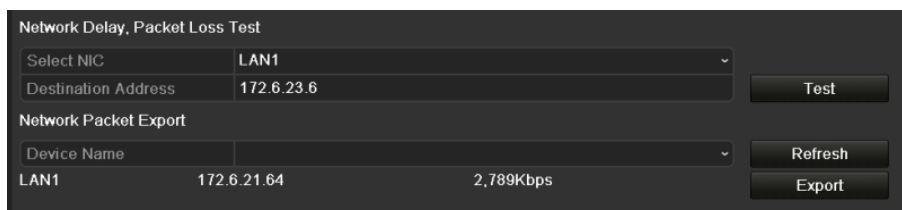

Figure 206 Network Detection Interface
2. Click the **Network Detection** tab to enter the Network Detection menu, as shown in Figure 206.